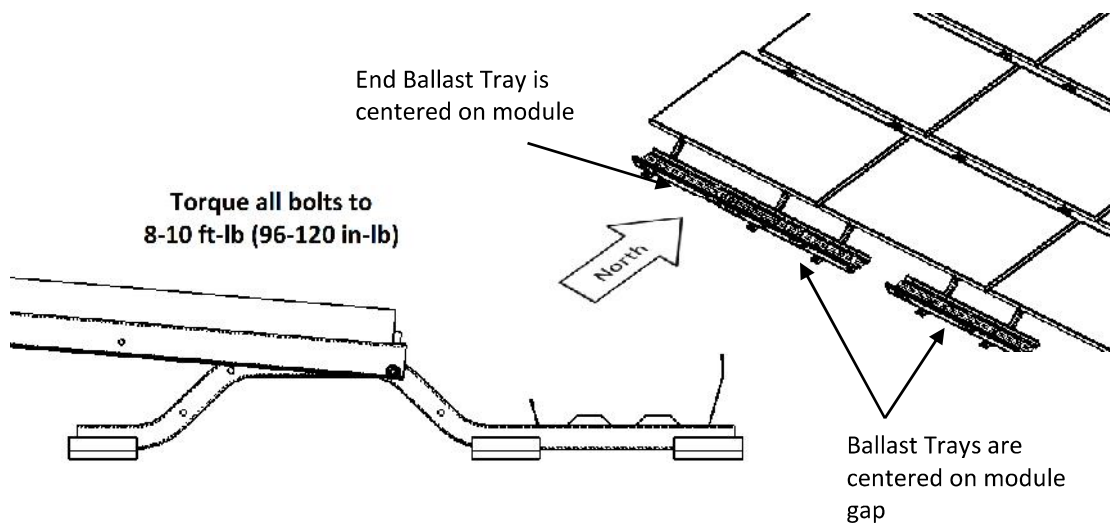

Figure 10 Installation of the South Tray
- 4.8. Install Ballast Trays to the pre-installed rivet nuts on the longer side of the South Supports by centering each Ballast Tray between two modules (Figure 10 Installation of the South Tray). The Ballast Tray may be shifted east or west to align with the closest slots. Thread a bolt onto each of the pre-installed Rivet Nuts and torque to 8-10 ft-lb (96-120 in-lb).